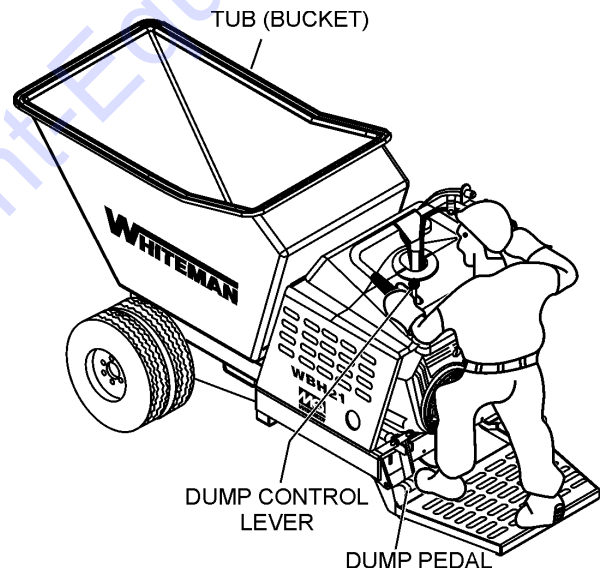

Figure 25. Tub Horizontal Position
2. To return the tub to the horizontal position (Figure 25), simply release the dump control lever or remove your foot from the dump pedal.